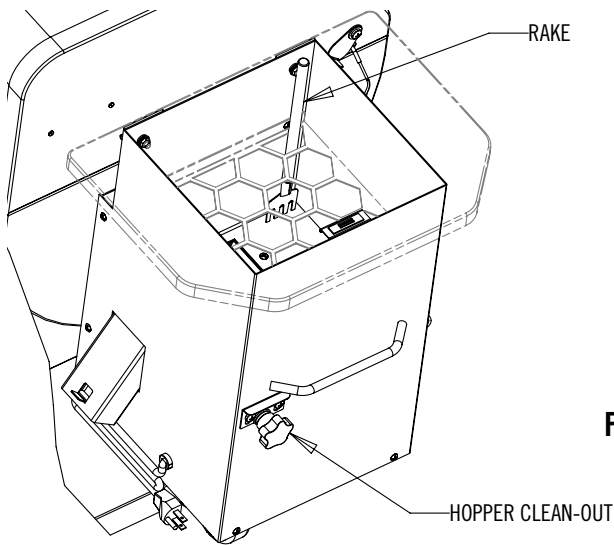

FIG. 17
6. Store the rake in the corner of the hopper as shown in Fig. 17.